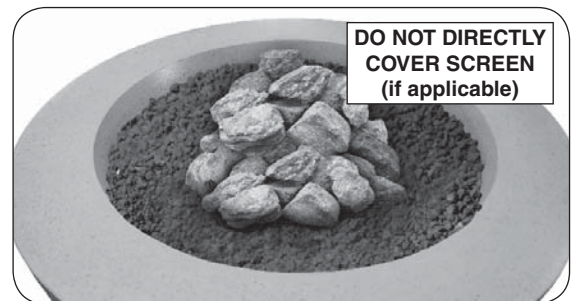

Fig. 32-3 Volcanic stones option
2. Pour the volcanic stones evenly into the burner area (see Fig. 32-3). The stones may form a mound. **Store any excess media in a safe location.**